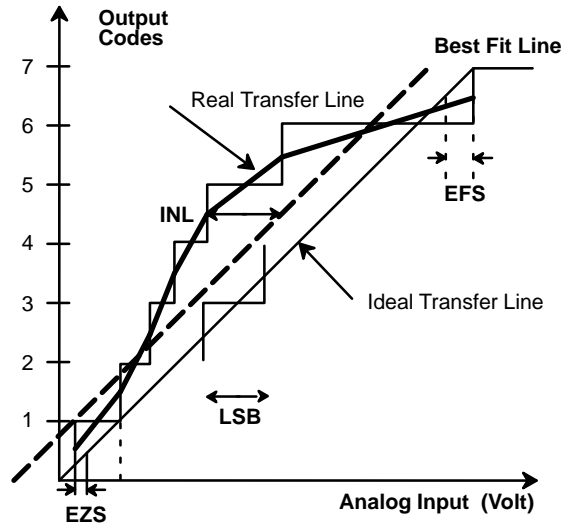

Figure 7. INL Error Calculation
- ² Tester measures code transition voltages by dithering the voltage of the analog input (V_{IN}). The difference between the measured code width and the ideal value (V_{REF}/1024) is the DNL error (see Figure 5.). The INL error is the maximum distance (in LSBs) from the best fit line to any transition voltage (see Figure 7.).
Figure 7. gives a visual definition of the INL error. The chart shows a 3-bit converter transfer curve with greatly exaggerated DNL errors to show the deviation of the real transfer curve from the ideal one.